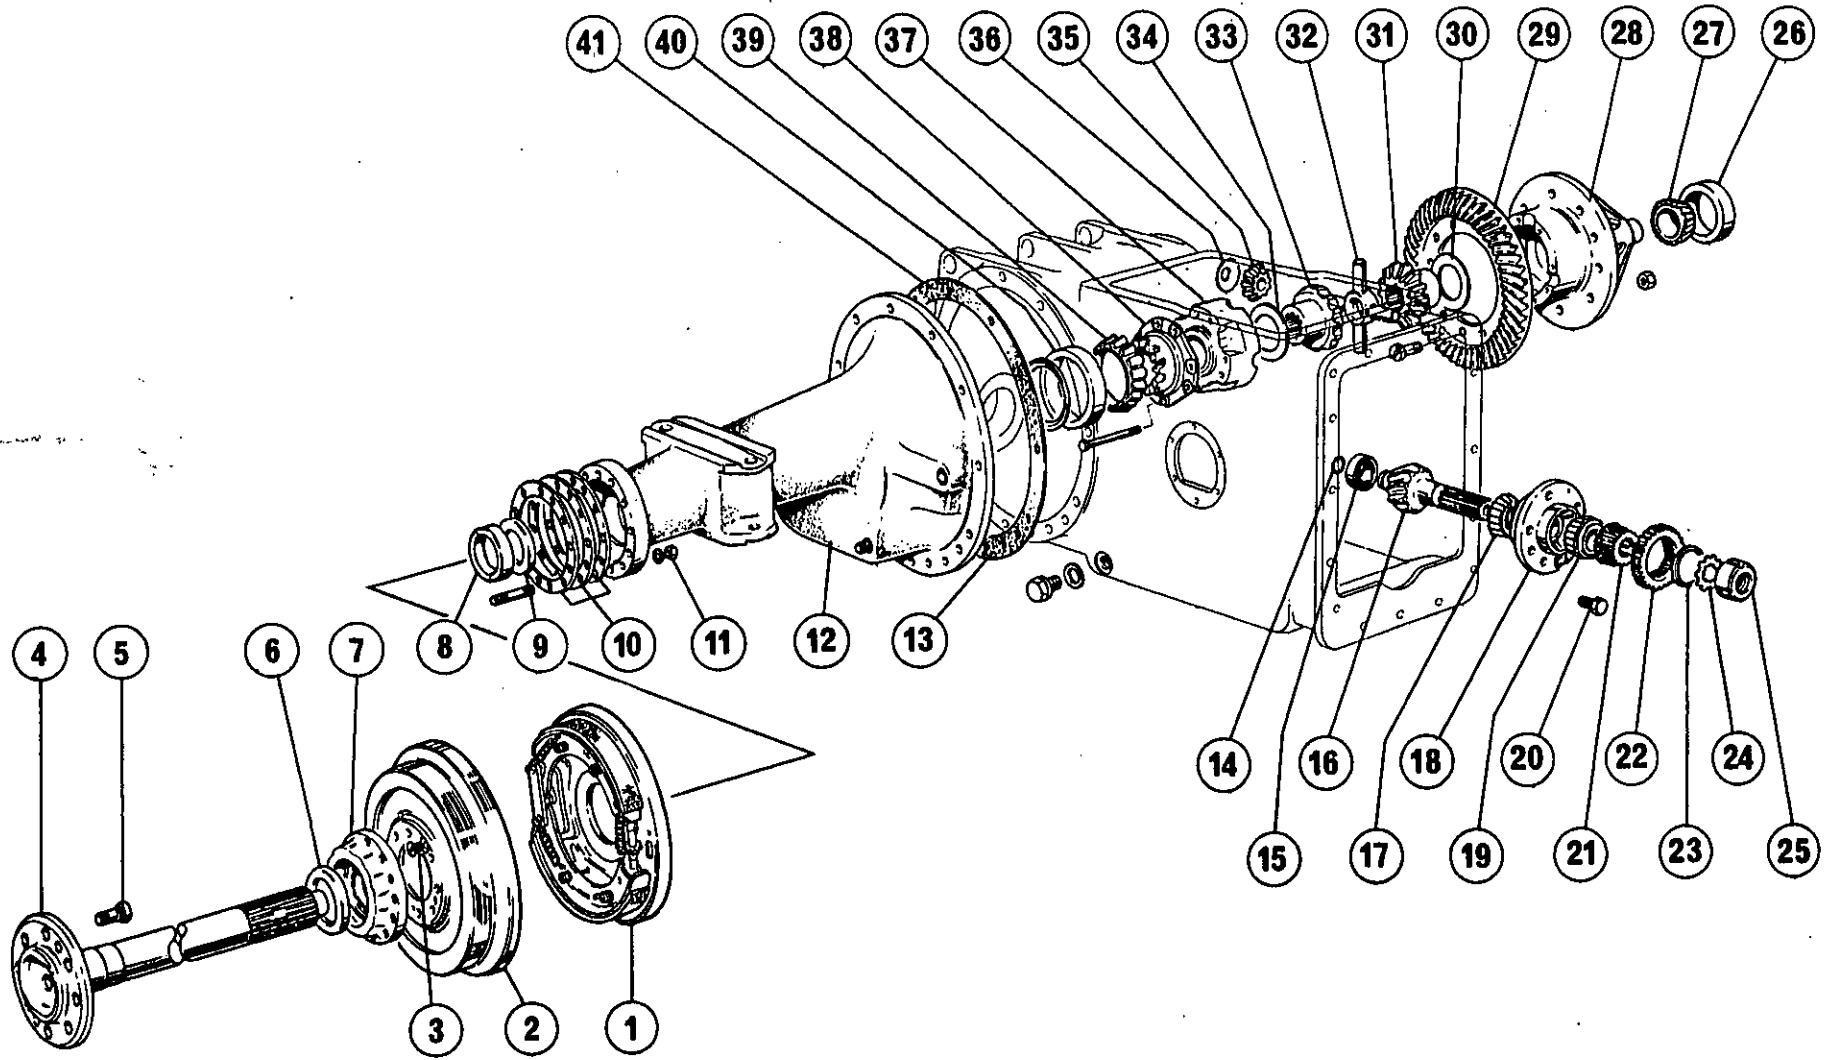

FIG. 1
3. Remove the anchor pins (50), spring washers and nuts (52).
5. Remove the setscrew securing the brake lever to the camshaft (48) and remove the camshaft, spring (54) and washer (55) from the back plate (51).
6. Fig. 1. Remove the 12 nuts (11) and spring washers securing the hub (7) to the trumpet housing.
7. Withdraw the axle shaft (4) complete with shims (10), hub and bearing assembly (7) and the back plate (51) from the trumpet housing, then remove the shims and back plate.